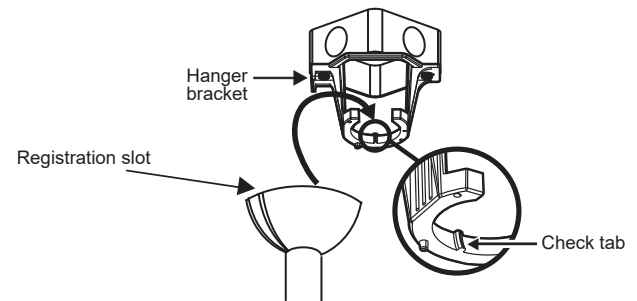

Fig. 10
Step 4. Lift the motor assembly into position and place the hanger ball into the ceiling mounting bracket. (Fig. 10)
Step 5. Rotate the entire assembly until the "Check Tab" has dropped into the "Registration Slot" and seats firmly. (Fig. 10)